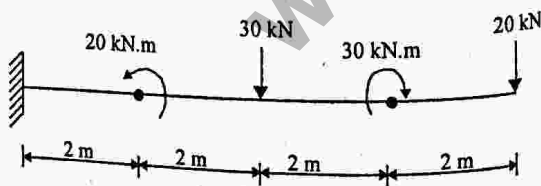

Fig. 2
3. (a) Find the reactions at the fixed end of the cantilever loaded as shown in figure. 2. Also draw SF and BM diagram. 8